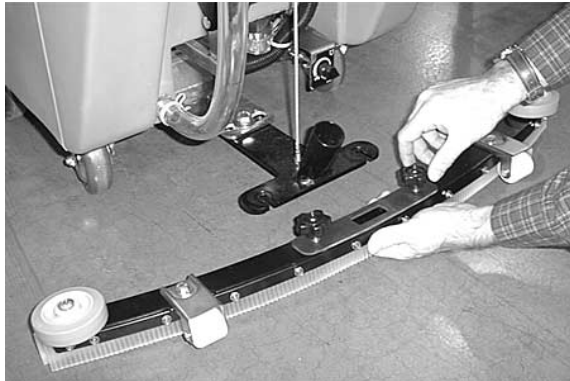

FIG. 4
3. Loosen two thumb knobs on squeegee assembly and slide squeegee into slots on squeegee mount bracket. Squeegee roller wheels should face outward (*Figure 4*).